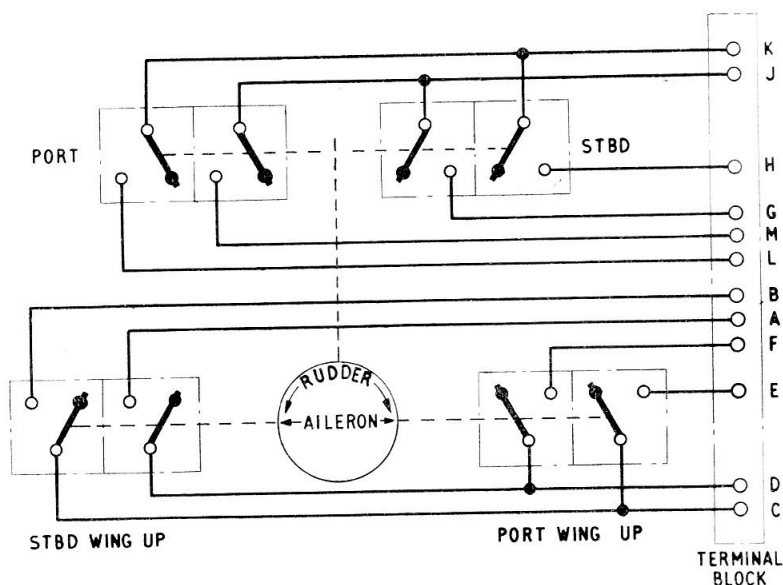

Fig. 3. Circuit diagram
4. The internal wiring of the switch is brought out to a terminal block. A wiring diagram is given in fig. 3. To gain access to the inside of the switch, remove the end cover from the switch.